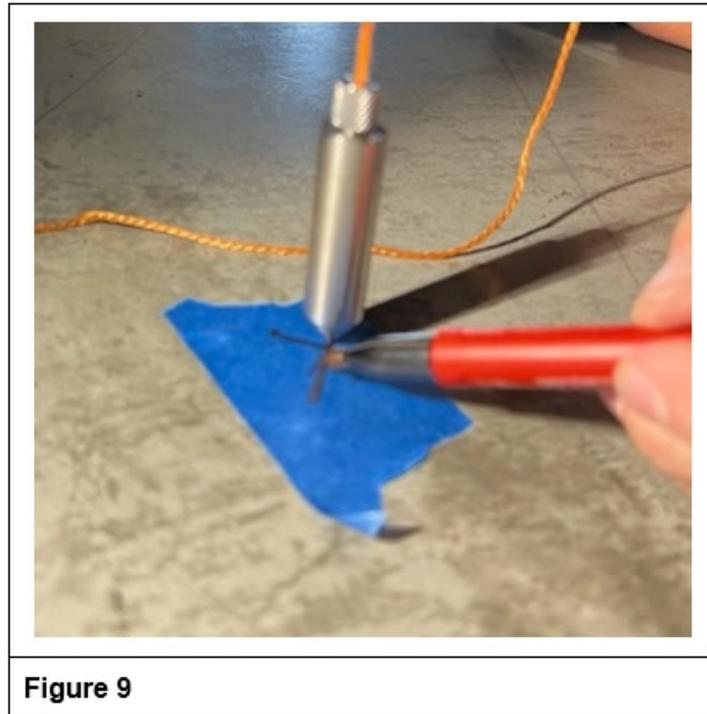

Figure 9
11. Place masking tape underneath each Plumb Bob weight point. When each of the Plumb Bob weights is still, mark each piece of masking tape with an X directly under the points as shown in Figure 9.